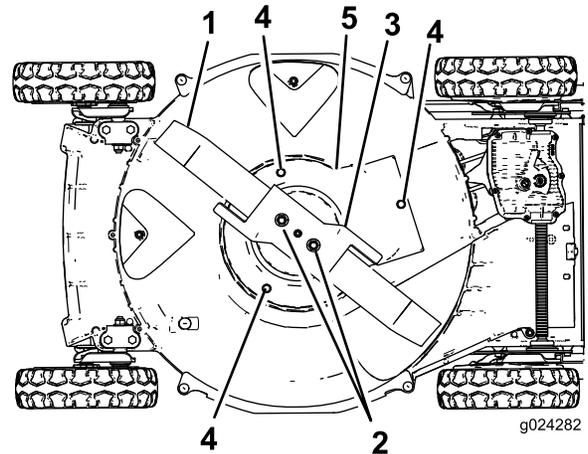

Figure 36
6. Remove the 2 blade nuts, the accelerator, and the blade (Figure 36).
7. Remove the screws that secure the blade-brake-clutch shield to the mower housing (Figure 36).